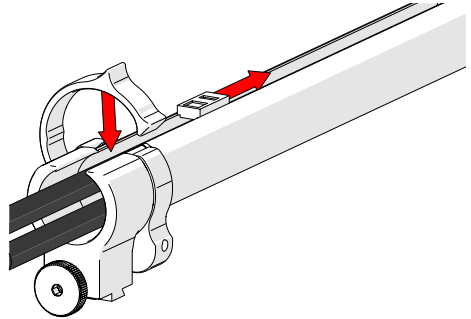

Fig. 78 - Zip up to close
2. Follow the cable placement, zipping the sleeving closed (Fig. 78).